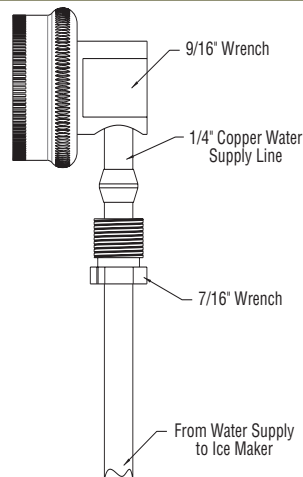

Figure 45
4. Slide a clamp on each side of the barbed fitting as shown (see **Figure 45**).